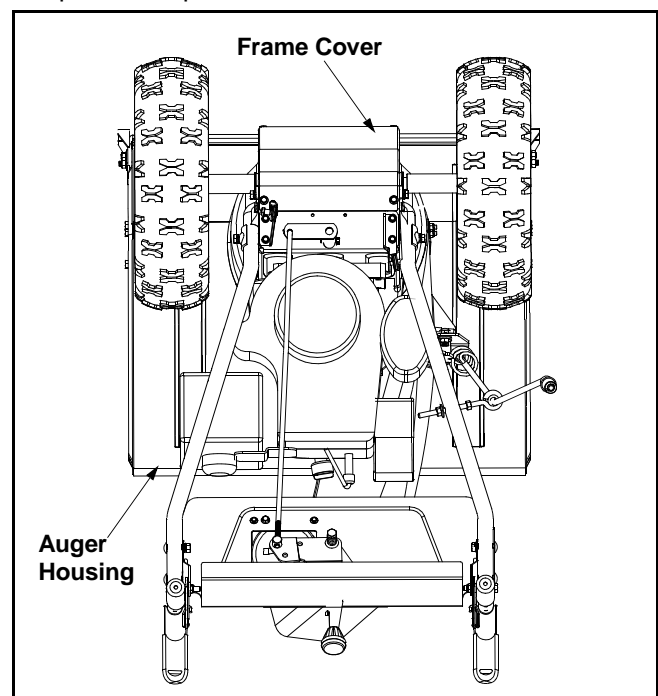

Figure 19
- Tip the snow thrower so that it rests on the auger housing. See Figure 19.